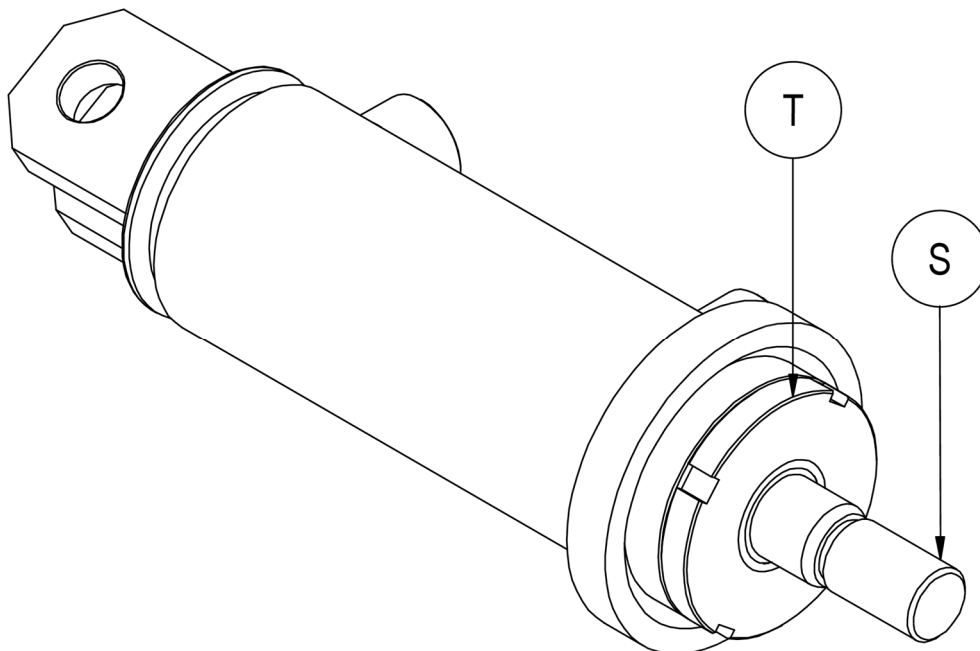

Figure 15
8. For reference, see *Figure 15*.